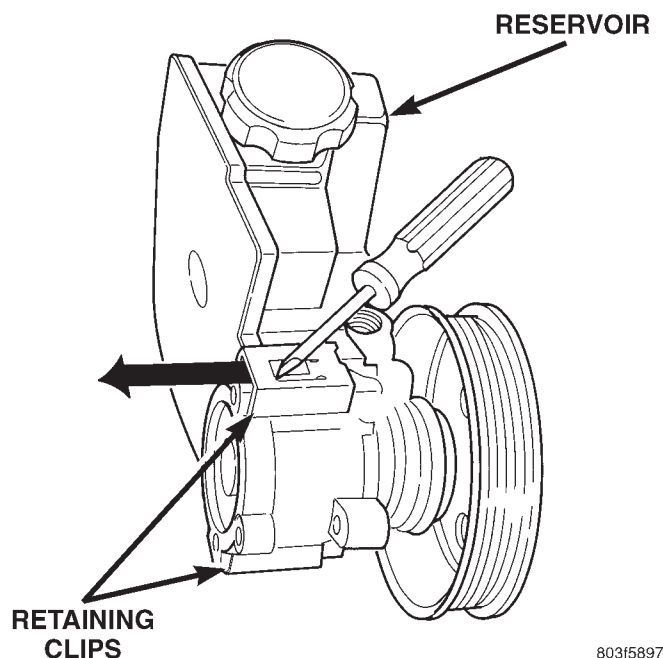

Fig. 7 Pump Reservoir Clips
- (1) Remove power steering pump.
- (2) Clean exterior of pump.
- (3) Clamp the pump body in a soft jaw vice.
- (4) Pry up tab and slide the retaining clips off (Fig. 7).